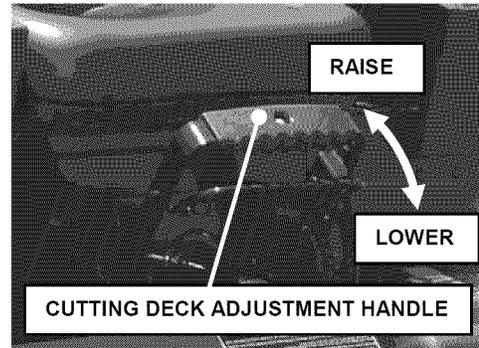

FIGURE 1.6
3. Make sure parking brake is engaged. See Figure 1.6.
4. Disengage parking brake. See Figure 1.6.